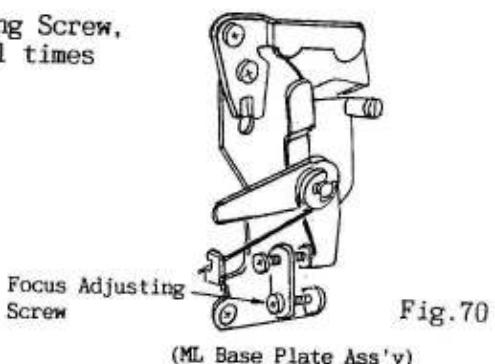

Fig.70
- ① If the focus is not adjusted even when the focus ring is turned to the infinity position
- ② If the focus is adjusted before the focus ring arrives at the infinity position
- When the focus is dislocated to such a degree that the indicator is positioned within $\pm 1/4$ of the "∞" mark width (with the standard lens Planar 1.4/50 is dislocated by 0.1 mm or less), correct it by turning the Focus Adjusting Screw. (See Fig.70)